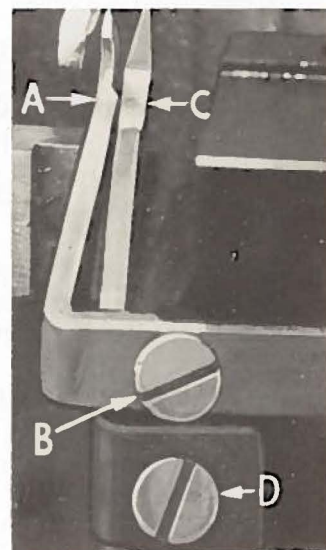

Fig. 5
Set rear needle guard (A, Fig. 5) as high as possible, without interfering with either lower loop or movement of lower knife holder, but still in position to deflect needle forward $.002 - .004$ inch. Screw (B) is used to set rear needle guard. Make sure there is no interference between rear needle guard and lower loop.
Assemble front needle guard (C, Fig. 5). When lower loop is springing needle off back guard, set front needle guard as close as possible to needle without touching. Screw (D) is used to adjust and set front needle guard. After this setting, make sure there is no interference between needle guard and differential feed dog.